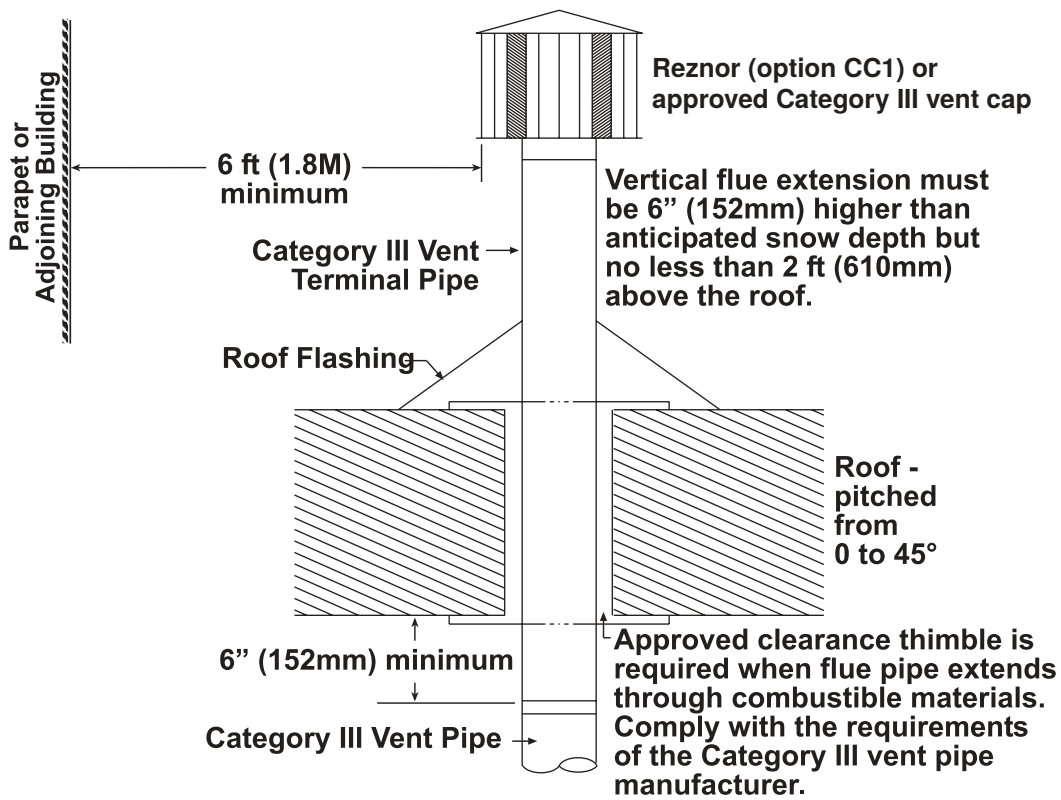

Figure 18. Vertical Vent Terminal (Residential Installations)
- c. Refer to instructions shown in Figure 18 to install vertical vent terminal.